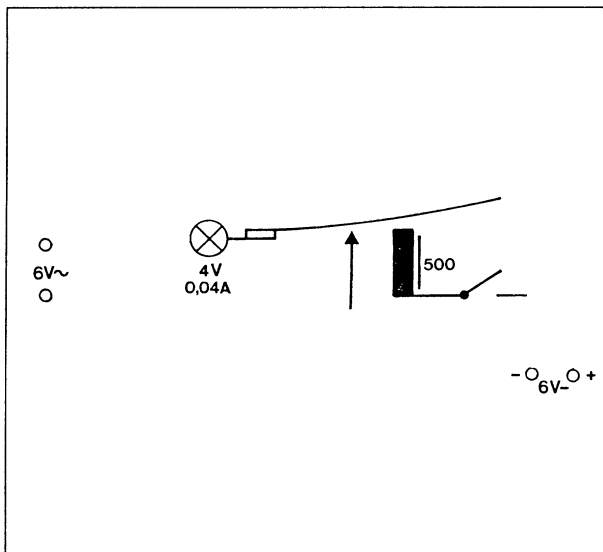

Fig. 2 Circuit symbols for the elements of the closing relay shown in Fig. 1.
5. Draw the circuit diagram for the closing relay shown in Fig. 1. Fig. 2 shows the elements of the diagram according to the setup on the rastered socket panel.